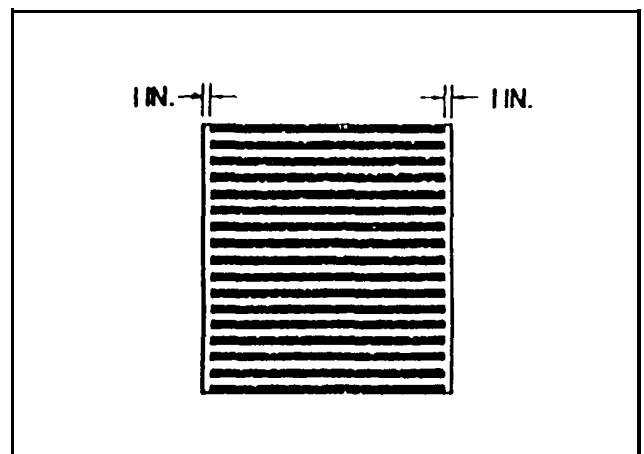

FIGURE 2-64. Welding Limits on Crusher Roll Shells
7. Weld beads must not be deposited over the roll edge. Base metal cracking generally begins here. The beads should be started and stopped about 1 in. short of the roll edge (Figure 2-64), or at least far enough from the edge to allow sufficient clearance for cheek plates.